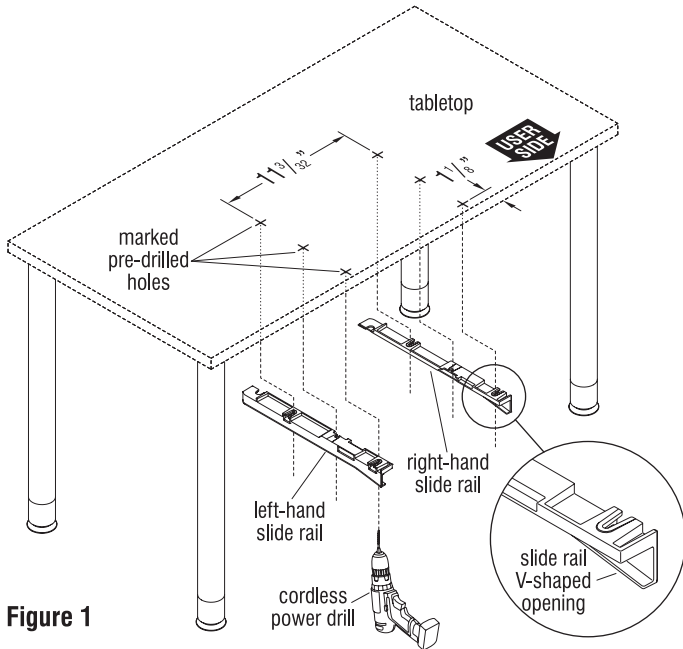

Figure 1
2. Use a tape measure and pencil to first locate and mark the front pilot hole location of the right-hand slide rail to the underside of the tabletop. The marked location must be $\frac{1}{8}$ " back from the front, "user side" edge of the tabletop. Once the front right-hand slide rail hole is marked, measure $11\frac{3}{32}$ " over to the location where the left-hand slide rail will install and mark the front hole. The marked location must also be $\frac{1}{8}$ " back from the front, "user side" edge of the tabletop (Figure 1).
3. Position the right-hand slide rail under the tabletop. Center the right-hand slide rail's front mounting slot over its previously marked hole. Align the right-hand slide rail to be square to the "user side" front edge of the table by measuring to the side edge, or by using a carpenter's square. Then, mark the two remaining mounting slots of the slide rail clearly on the underside of the tabletop. Follow the same steps for the left-hand slide rail to mark its middle and back holes. Right- and left-hand marked-holes should be $11\frac{3}{32}$ " apart from side-to-side (Figure 1).
4. Carefully drill six $\frac{1}{8}$ " diameter, $\frac{1}{2}$ " deep pilot holes under the tabletop at the center of the marked locations using a power drill. Take care to not drill too deep, piercing through the tabletop (Figure 1).